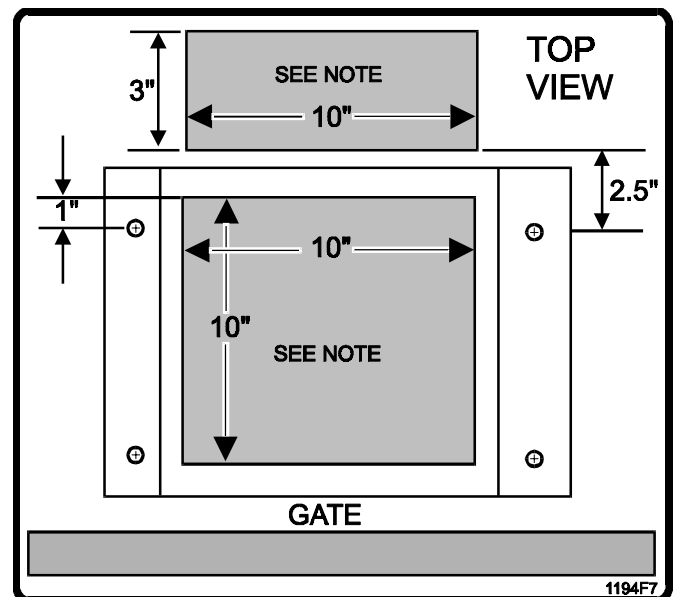

Figure 6. Conduit Entrance Areas.
4. Be sure to provide access for wiring conduits (Figure 6).